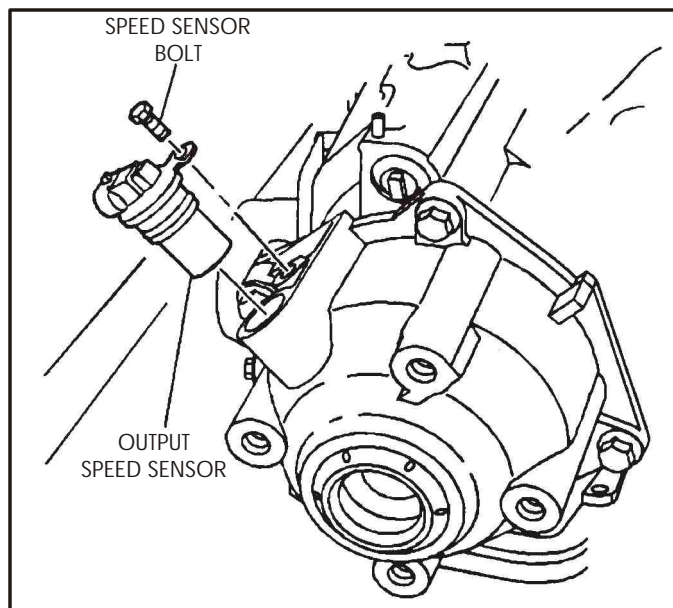

Figure 153
27. Install new "O" ring on the output speed sensor and install into speed sensor hole in the final drive housing, as shown in Figure 153.